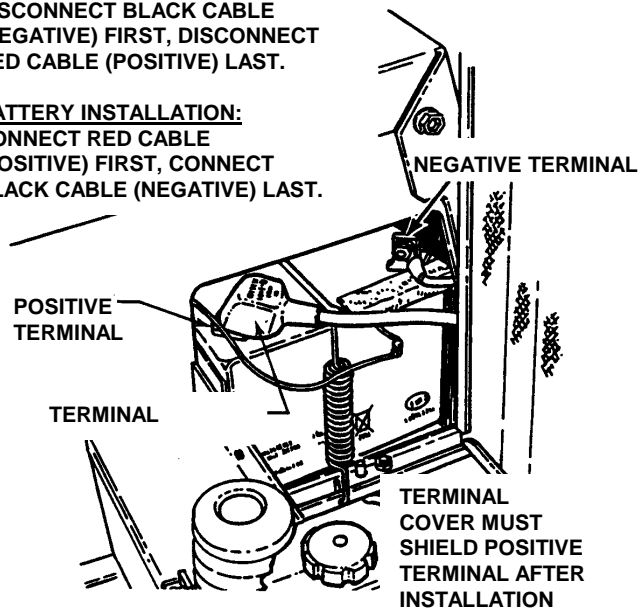

FIGURE 5.9
3. Observe and note cable positions on battery. See Figure 5.9.